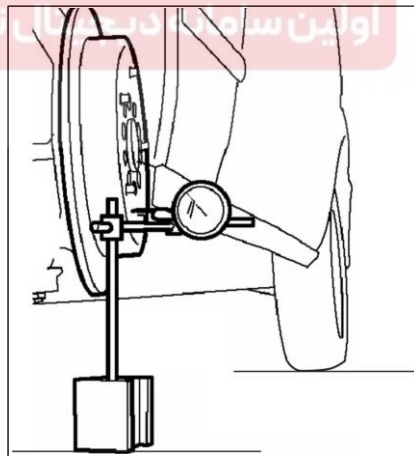

Figure 4-18 Measure Axial Clearance of Wheel Bearing
- 2) As illustrated in Figure 4-18, install a suitable micrometer gauge retainer or similar device on wheel hub, then push and pull wheel hub. Measure end clearance between wheel hub and front wheel bearing assembly.